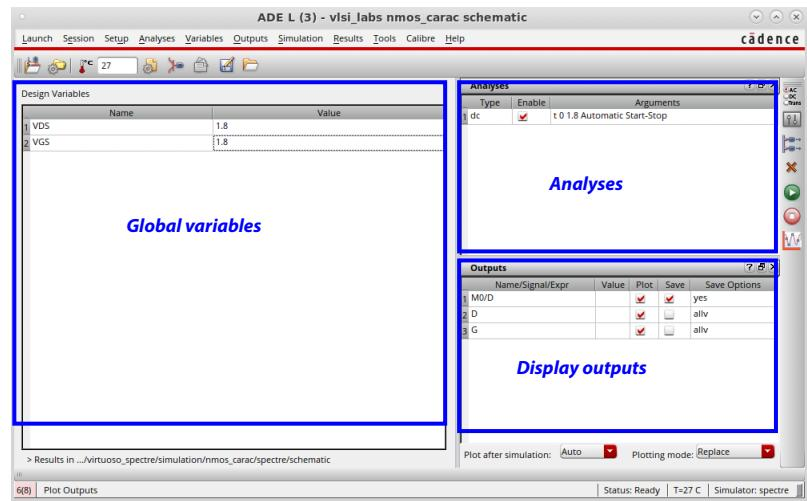

Figure 10: ADE L window.
The ADE L window should appear (Fig. 10). The **Global variables** is where all your design variables are defined (transistor width or length, source voltages, *etc.*). Note that only the variables you define as a parameter in your schematic can be used as global variable. The **Analyses** panel defines the different analyses you will run on your schematic (transient, DC, AC, *etc.*). The **Display outputs** is where you choose which output (voltage, current, parameter) will be displayed after the simulation.
4. Select which outputs you want to plot (*Outputs -> To Be Plotted -> Select On Design*). The schematic window should appear. Select the gate and drain voltage as well as the drain current. Your ADE window should look like the one on Fig. 10.